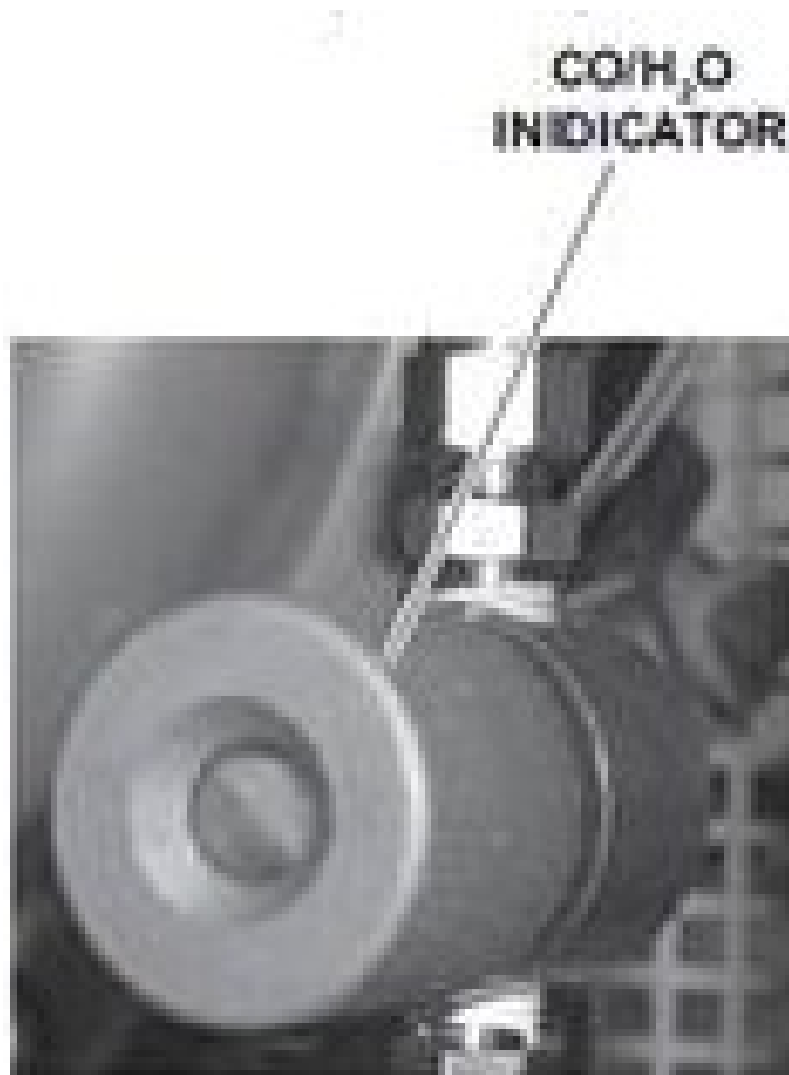

Figure 551-8ST-1004\_17 (Co/H2O Indicator)
c. Check the CO/H2O indicator before use.(Figure 551-8ST-1004\_17)
(1) Inspect the CO/H2O indicator to verify that it is tan and blue.
(2) If it is brown, pink, or white it is not ready/available. (Figure 551-8ST-1004\_18)